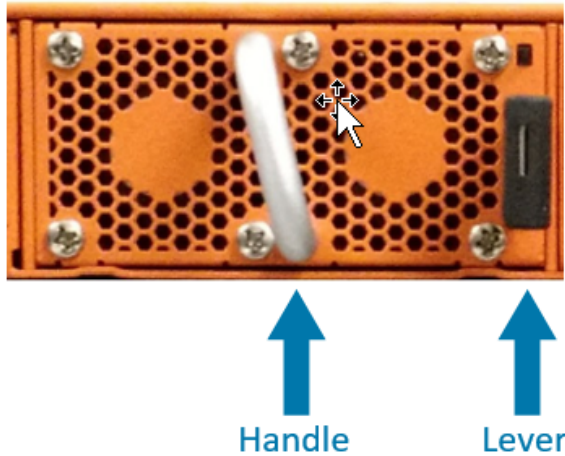

Figure 14 Replacing a Fan (GigaVUE TA Series-TA10 Shown)
1. Locate lever and handle as shown in Figure 14 Replacing a Fan \(GigaVUE TA Series-TA10 Shown\).